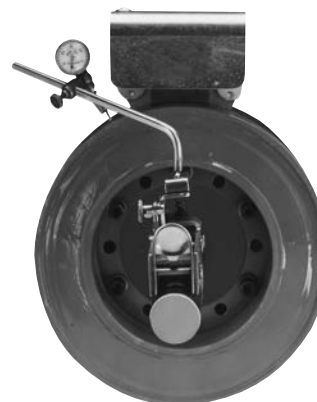

Figure 3
- After the unit is in place the mounting face and pilot diameter must be square and concentric with the shaft in accordance with the tolerances listed on the drawings. (Figure 3)